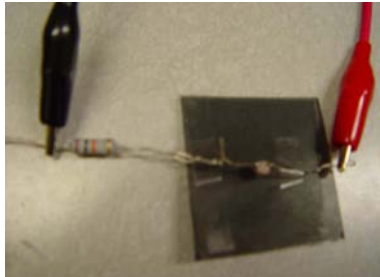

Figure 7: Completed phototransistor
- (2) The construction of the phototransistor is fairly simple: attach the photoresistor in series with the 10 k $\Omega$  resistor, and bias with a 9 V battery (connected with alligator clips). Now tape the circuit face-down onto one of the polarizer sheets with clear scotch tape. See Figure 7.